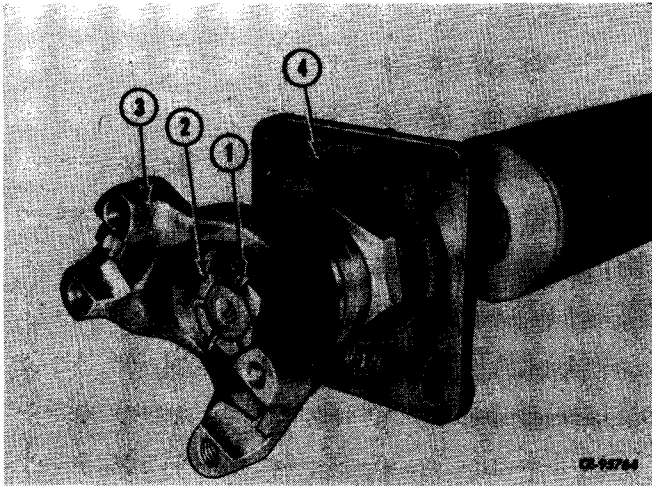

Figure 5-15
Align yoke (3, Fig. 5-15) with key and install on shaft. Tighten nut (2) to recommended torque (refer to "SPECIAL TORQUES").